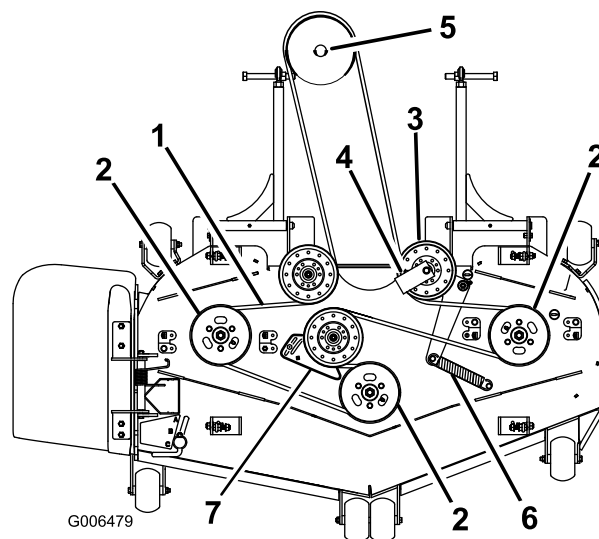
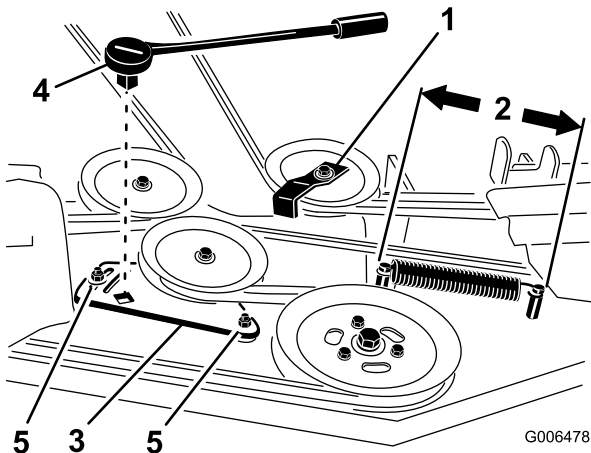

Figure 68
Figure 70
4. For 72 inch mowers, loosen the idler plate bolts holding the idler plate (Figure 70).
6. Remove the belt guide on the spring loaded idler pulley shown in Figure 68 and Figure 70.
8. Install the new belt around the mower pulleys and the gearbox pulley under the engine (Figure 68).
9. Install the belt guide on the spring loaded idler at a 45 degree angle as shown in Figure 68 and Figure 70. Torque the bolt to 27 to 33 ft-lb (37 to 45 N-m).
10. Install the idler spring to the two posts (Figure 68 and Figure 70).
4. Measure the spring length (Figure 70). If the spring length is between 10 and 10-1/4 inches (25.4 and 26.0 cm), from post to post, no adjustment is needed.
5. Loosen the bolts holding the idler plate (Figure 70).
6. Insert a ratchet or breaker bar into the square hole in the idler plate to adjust the tension (Figure 70).
7. Rotate the ratchet or breaker bar to move the idler plate until the idler spring is between 10 and 10-1/4 inches (25.4 and 26.0 cm) from post to post as shown in Figure 70.
8. While holding the belt tension and spring length, tighten the idler plate bolts that secure the idler plate (Figure 70).